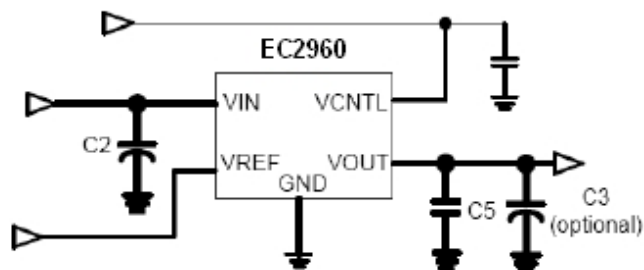

Figure 4.
4. Large current paths, the bold lines in Figure 4, must have wide tracks.